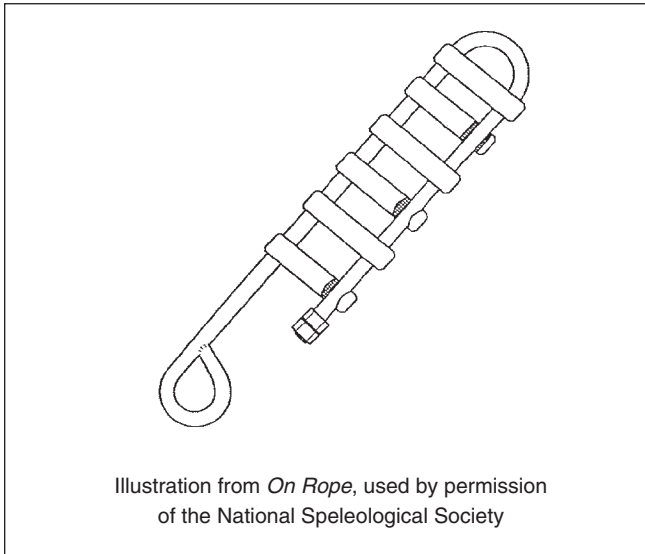

Figure 6j—A correctly assembled rappel rack.
- A. Position the brake bars on the frame so the bar ends with the holes are on the long leg of the frame (the leg containing the attachment eye). Bar slots must face in alternate directions (figure 6j). Some sources suggest alternating the holes from one side to the other.